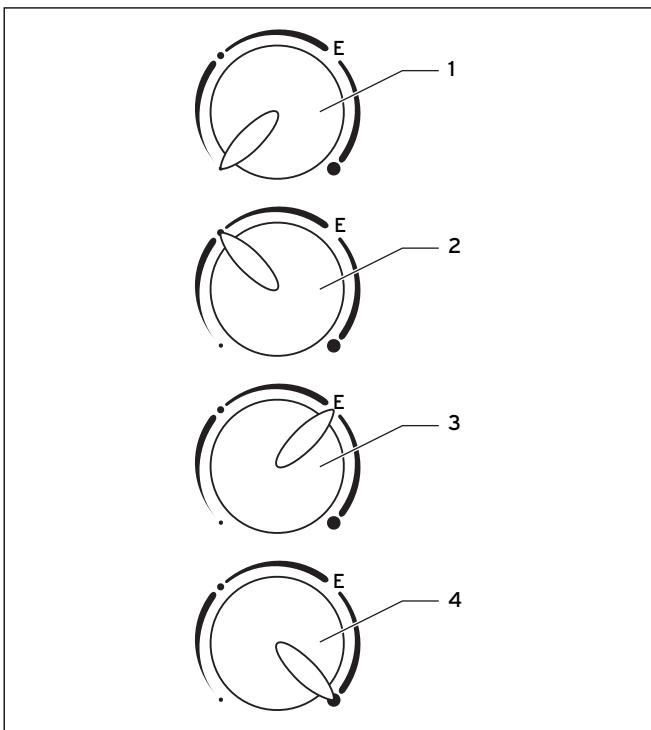
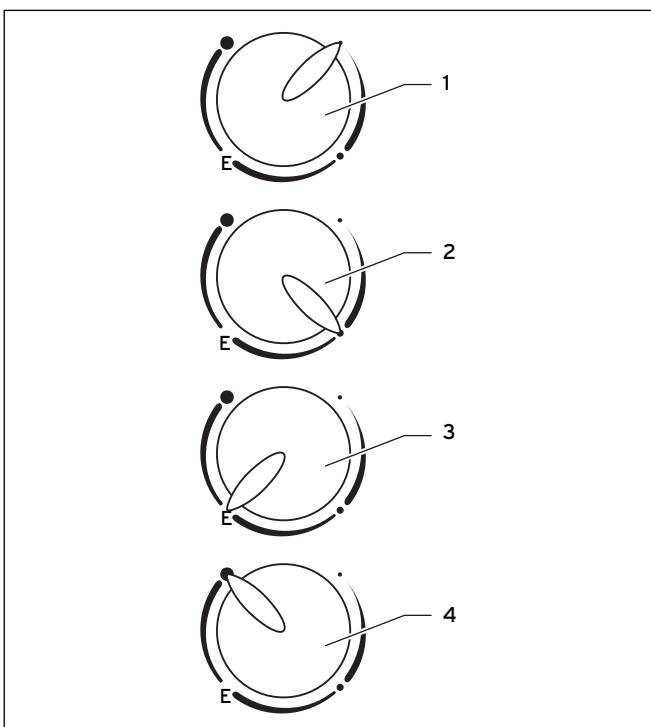

Fig. 7.3 Temperature selector on the undercounter unit
Fig. 7.4 Temperature selector on the overcounter unit
The water is prevented from freezing (with the electric domestic hot water cylinder connected to the power). In frost protection position (→ (1), **Fig. 7.3, Fig. 7.4**), the water in the tank remains cold. The electric domestic hot water cylinder is protected from freezing by a frost protection function (while connected to the power).